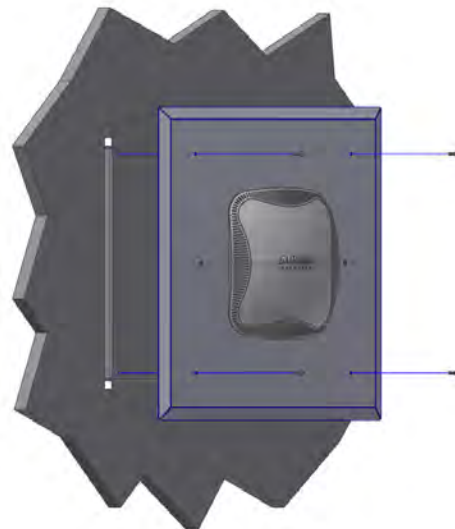

Figure 7
Step 8 – Once the access point is secured and power and Ethernet are connected, screw the trim with access point into the installed back box using the provided painted screws. The installation is now complete (Figure 7).